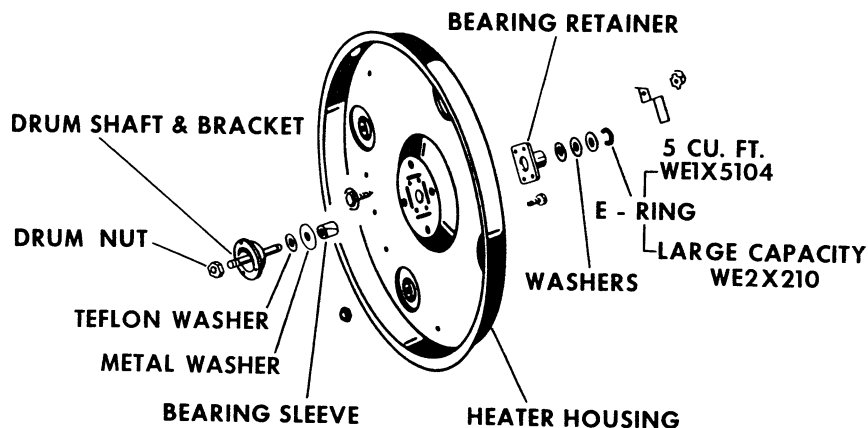

**Figure 17**
1. Rotate drum support bracket with one notch at the 12 o'clock position Figure 17.